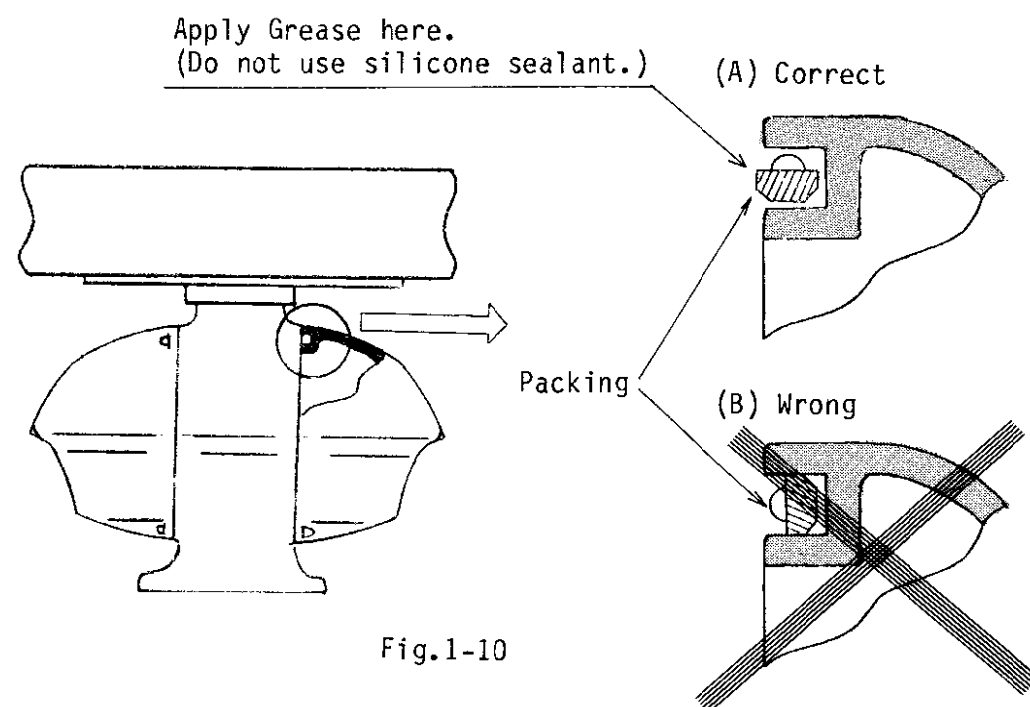

Fig.1-10
- 10) Close the scanner housing covers, making sure that the scanner cover packing ring is set correctly in position (as shown in Fig.1-10) and that its surface is properly greased and is free of dirt.